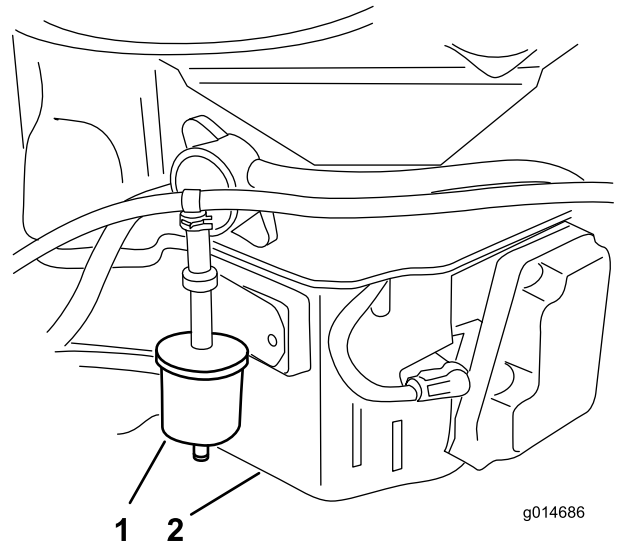

Figure 34
3. Remove the existing fuel-vent filter (Figure 34).